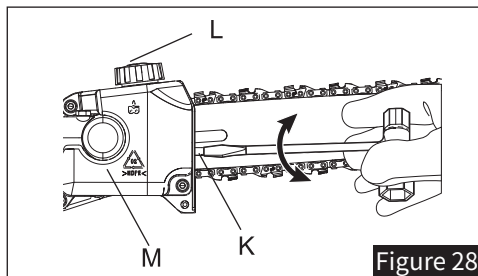

Figure 28
- Using a screwdriver, turn the chain tensioning screw (Figure 28, Item K):